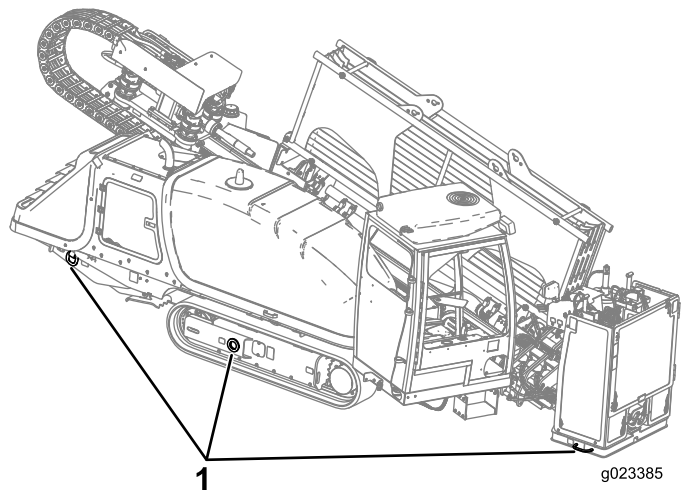

Figure 68
9. Use appropriately rated chains and binders to secure the rings on the left and right track frames and the stake-down plate to the trailer (Figure 68).